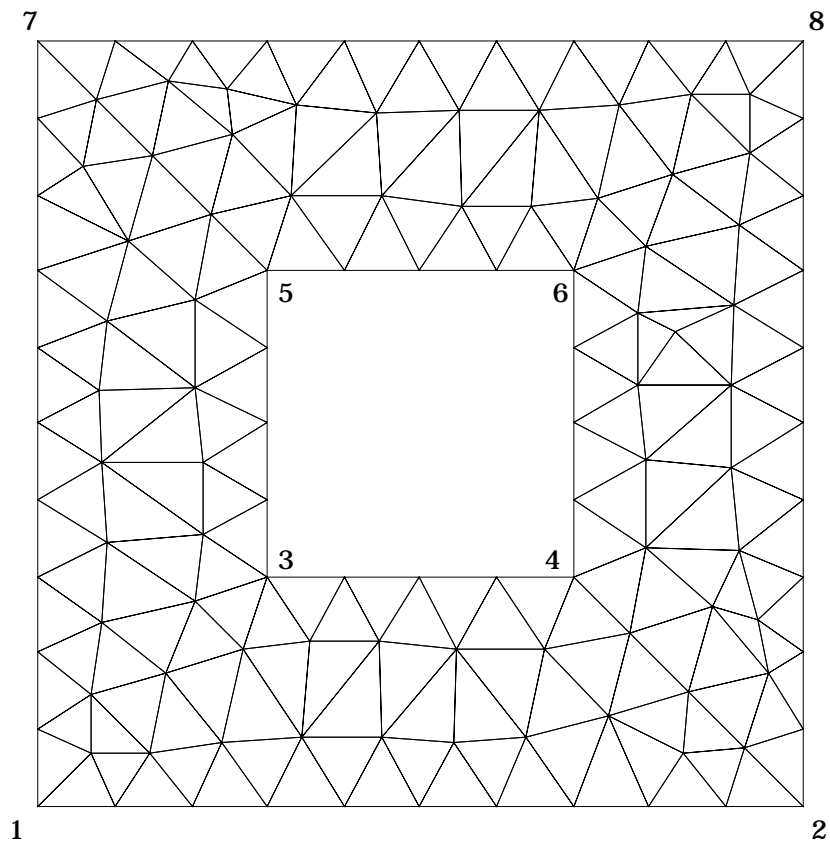

Fig. 2.5: Punched body
**The following listing of a mesh generator file and Fig. 2.5 demonstrate a punched body.**